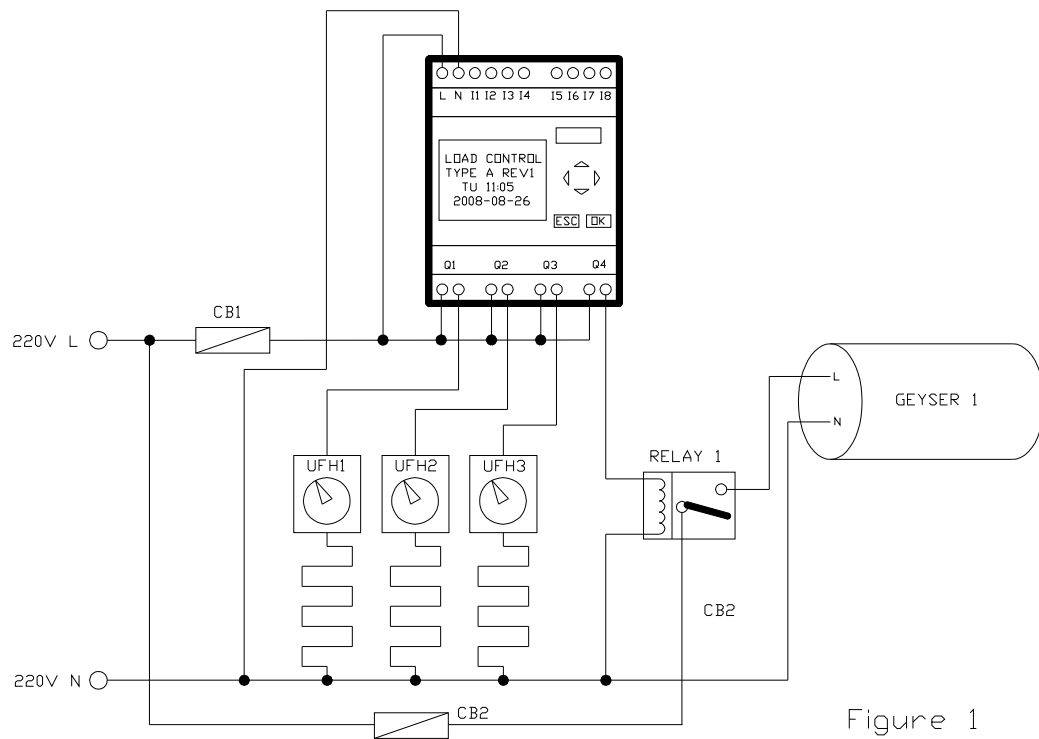

Figure 1
- Q4 This relay is controlled by the real time clock (RTC). There are up to 3 camms allowing the user to set 3 different ON and OFF times. It can typically be used to control one or more geysers. The geysers would be switched off during peak times. By default, the camms are set to be off from 6h00 until 8h00 and from 16h00 until 21h00. Again, this could be changed by the user. By using external contactors, signals Q1-3 and Q4 could be combined to switch only 1 geyser on at any one time. Refer to figure 1 and 2.